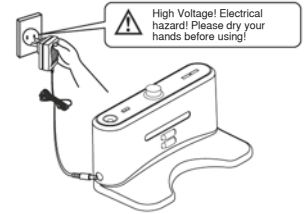

Figure 2
4. Connect the output terminal of the adaptor with DC socket of the Docking Station. (Refer to Figure 2)